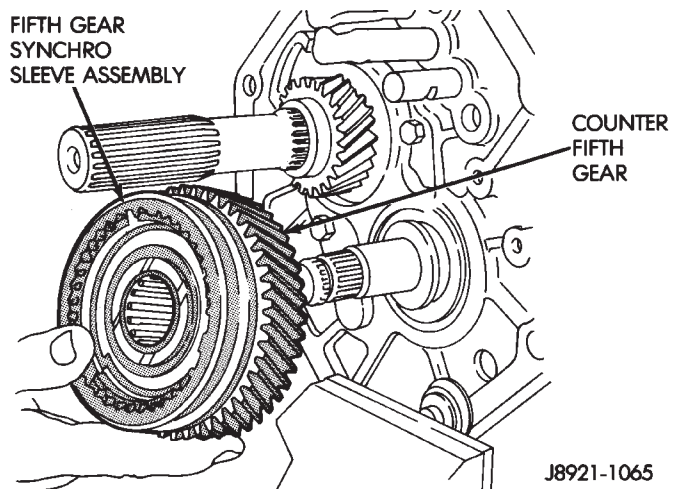

Fig. 101 Installing Counter Fifth Gear And Sleeve
(5) Install counter fifth gear and synchro assembly on cluster gear journal (Fig. 101).